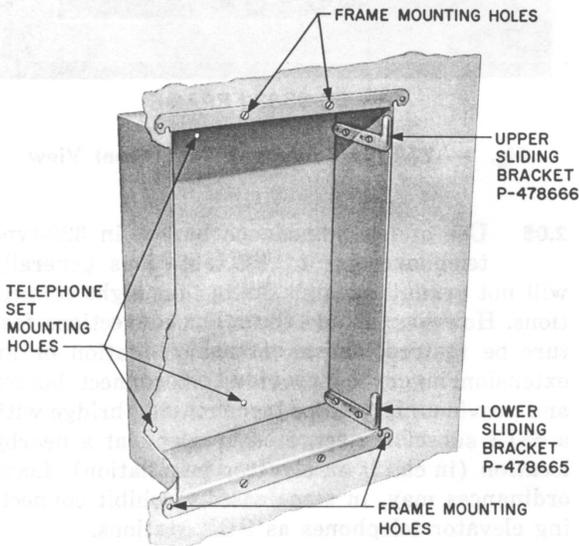
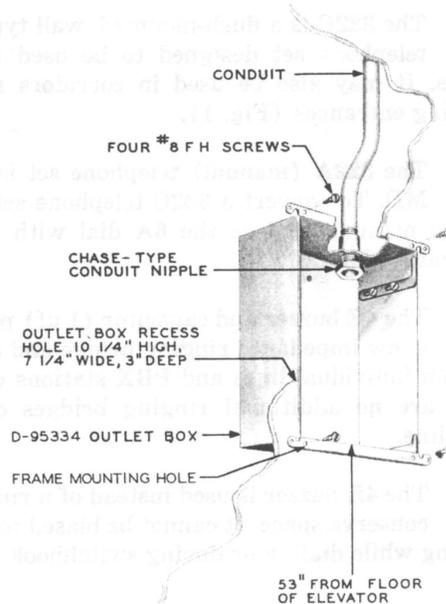
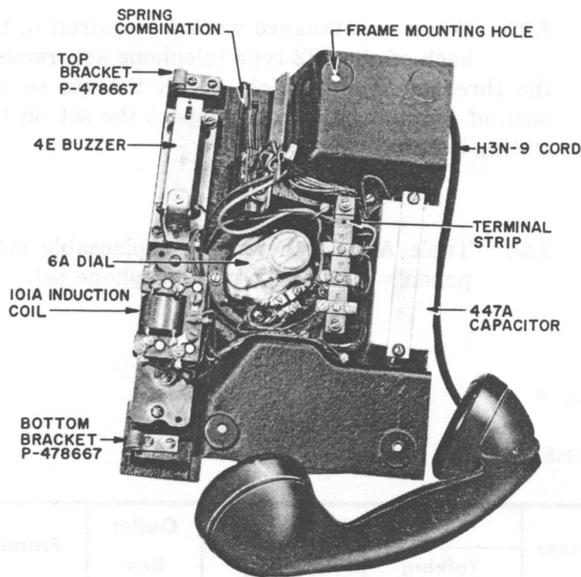

Fig. 2 - D-95334 Outlet Box
Fig. 3 - Mounting of Outlet Box
Fig. 4 — 322-Type Telephone Set, Rear View
3.05 It is recommended that as a general proposition the standard D-95334 outlet box (Fig. 2) be mounted in a recess 10-1/4 inches high, 7-1/4 inches wide, 3 inches deep, and 53 inches from floor as illustrated in Fig. 3.
- 3.12** Two sliding brackets and four flister head machine screws are furnished with 322-type telephone set and are attached to outlet box at locations indicated in Fig. 2.
3.14 To support the 322-type set in a convenient position while making connections or adjustments, turn the set at a right-angle to the outlet box and place the P-478667 brackets (Fig. 4) over the P-478666 and P-478665 sliding brackets (Fig. 2).